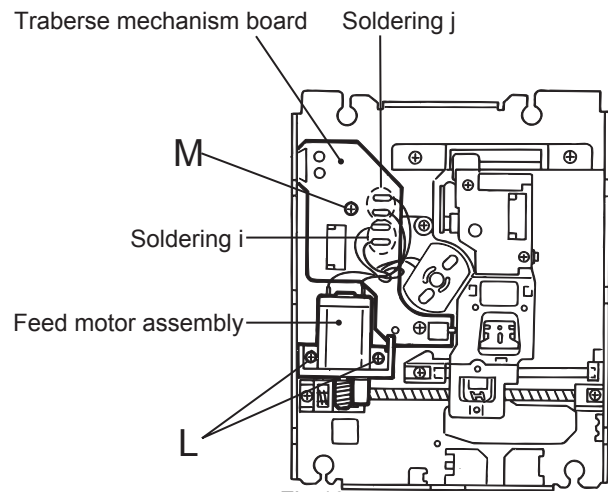

Fig.19
2.4.8.5 Removing the traverse mechanism board (See Fig.19)